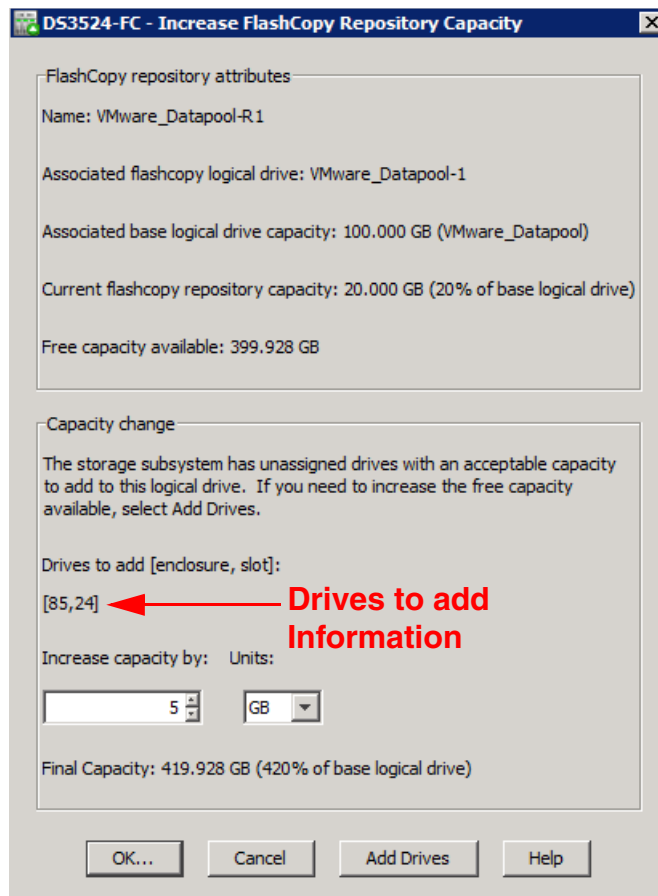

Figure 2-37 Increase FlashCopy Repository capacity: Added drives
- iv. Select **Add**. The Add Drives window is closed. Check the “Drives to add [enclosure, slot]” area to ensure that the correct drives are added. See Figure 2-37.